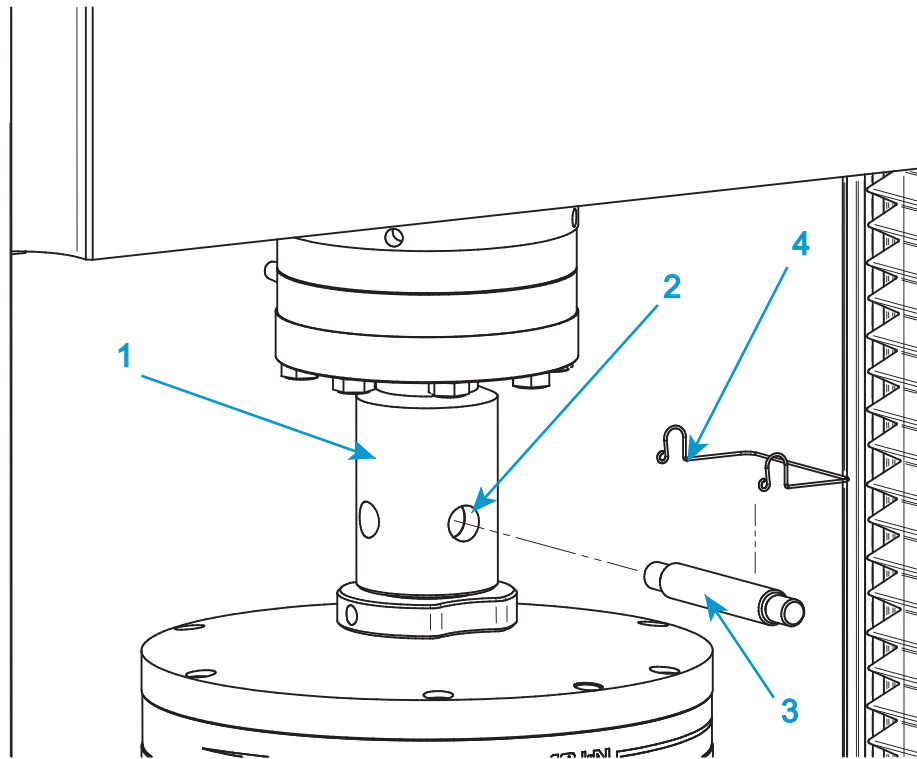

Figure 30. Typical grip installation
Refer to Figure 30 on page 111 when following this procedure.
1. For the upper grip, insert the adapter on the grip into the female clevis socket (1 in Figure 30) on the load cell adapter.
2. Align the clevis holes (2 in Figure 30) and insert the clevis pin (3 in Figure 30) through the holes.
3. Secure the clevis pin in position with the clevis pin clip (4 in Figure 30).